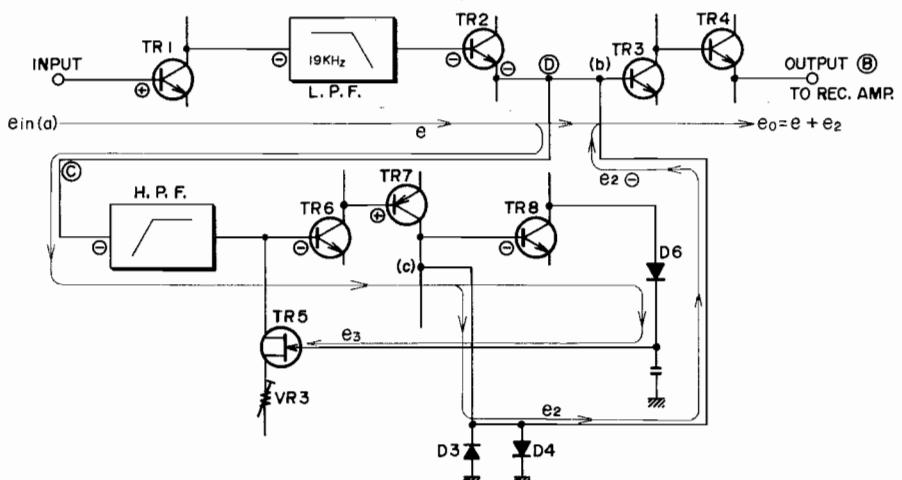

Fig. 45
1. RECORDING BOLBY N.R. SYSTEM (Refer to Figs. 45 and 46)